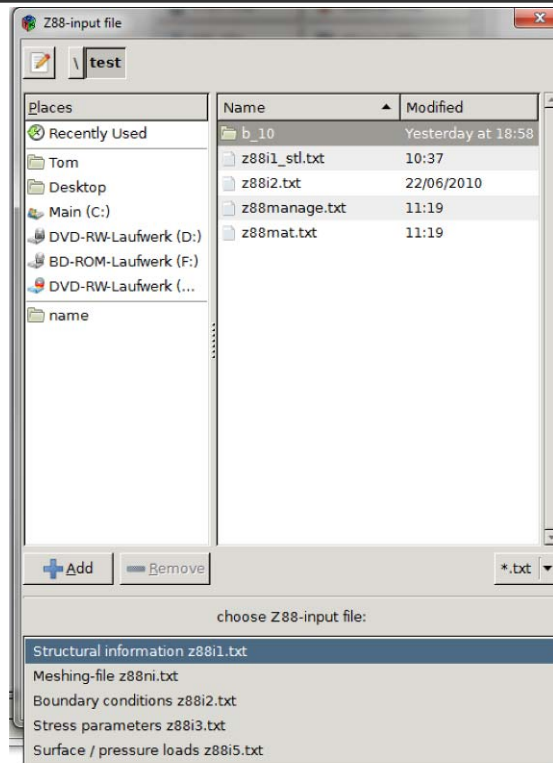

Figure 28: Import function for existing Z88 files
- ⚠ **The default setting, which input file is supposed to be imported, is defined by the user (Figure 28).**